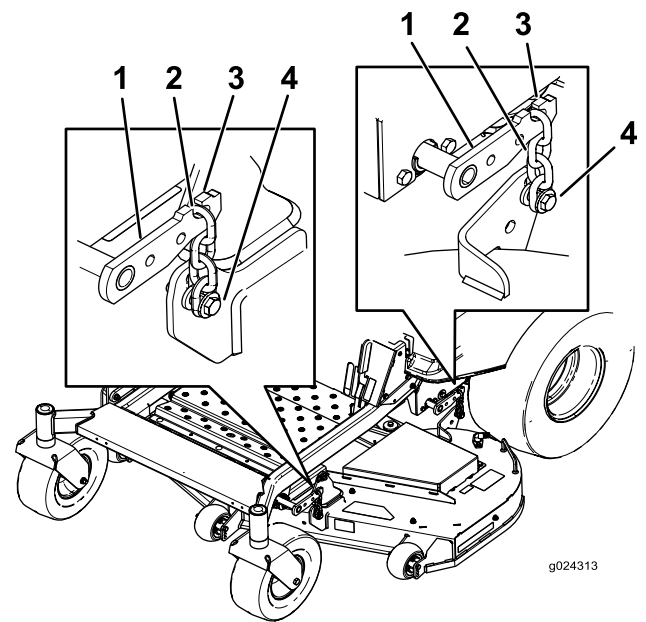

Figure 65
7. Remove the chains from the hooks on the deck-lift arms (Figure 65).
6. Lift the rear of the mower deck and attach the chains to the rear lift arms (Figure 65).
7. Attach the front chains to the front lift arms (Figure 65).